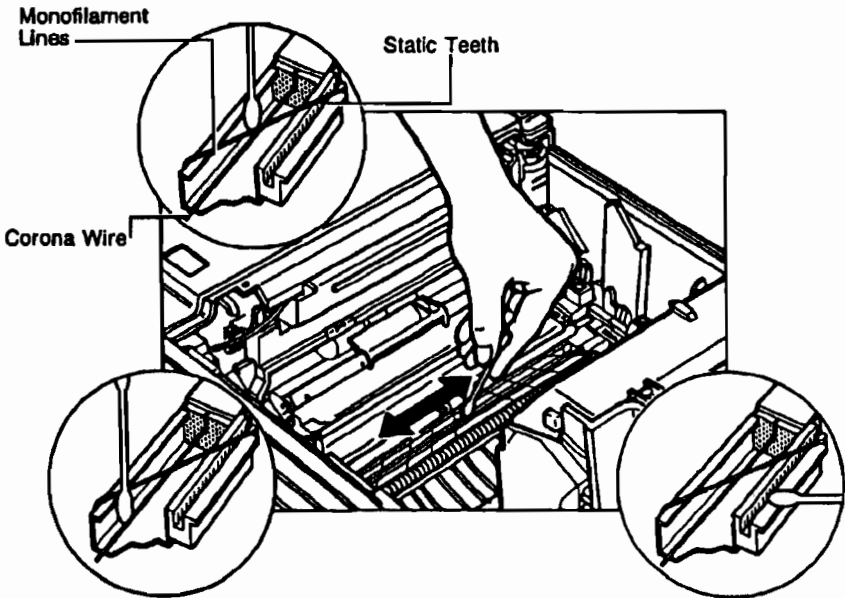

Figure 4-3. Cleaning the Transfer Corona Wire
3. Carefully clean the Transfer Corona housing, removing as much toner buildup as possible. (See Figure 4-3).
4. With a clean swab and isopropyl alcohol (or water), gently wipe the Transfer Corona wire (see Figure 4-3) with the cotton swab until no residue remains.
5. With the brush-end of the green cleaning brush, remove any debris accumulations around the sharp row of static teeth on the output side of the Transfer Corona (see Figure 4-3).